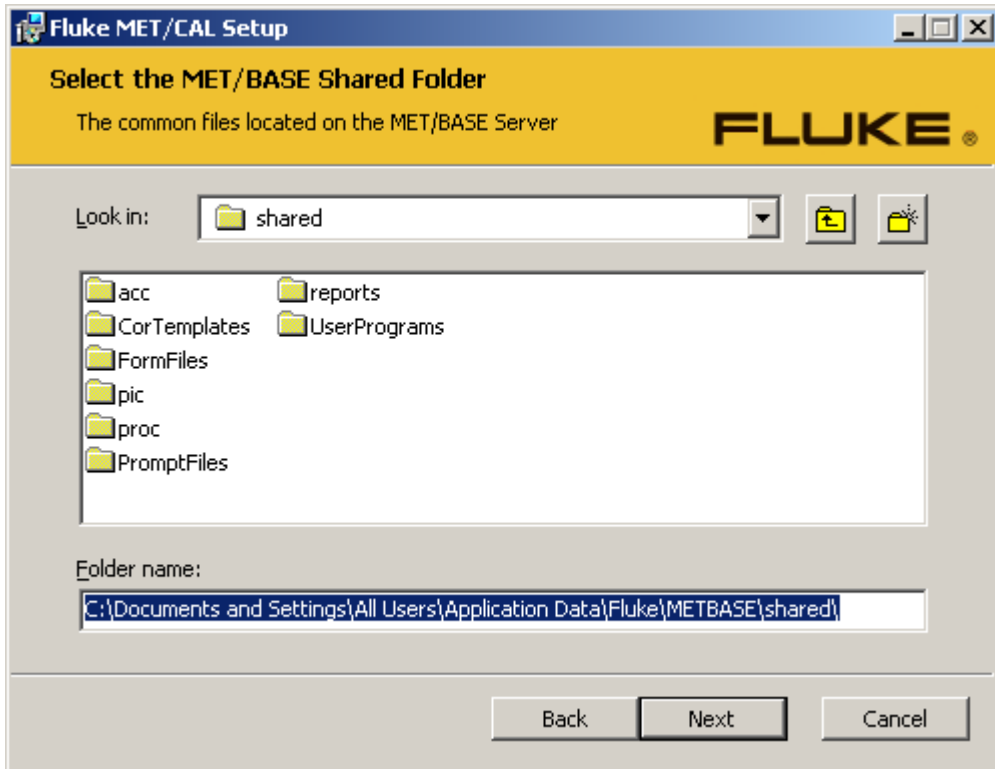

Figure 11. Shared Folder Location
9. Enter the path to the MET/BASE shared folder. For a networked installation, this should be a locally mapped drive on the MET/BASE server PC. In a stand-alone installation, this is typically a local folder, see Figure 11.
- a. Enter the path to the MET/BASE shared folder. For a networked installation, this should be a locally mapped drive on the MET/BASE server PC. In a stand-alone installation, this is typically a local folder, see Figure 11.